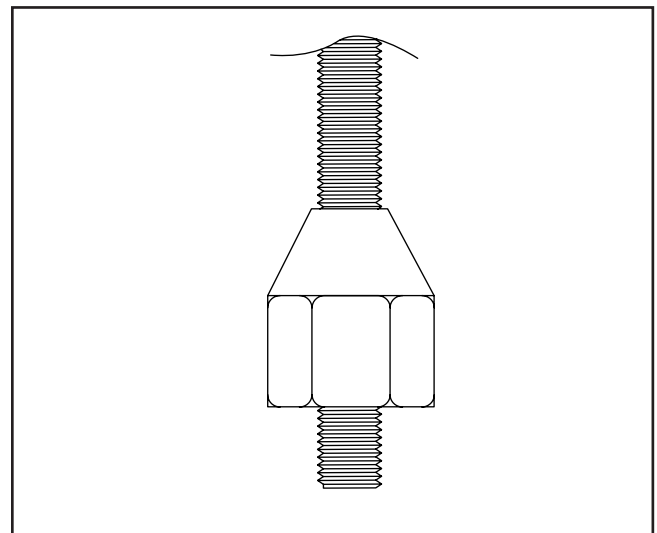

Figure 8. Drawbar nut on spindle.
4. Thread the drawbar nut, tapered side up, onto the bottom of the drawbar, as illustrated in **Figure 8**.